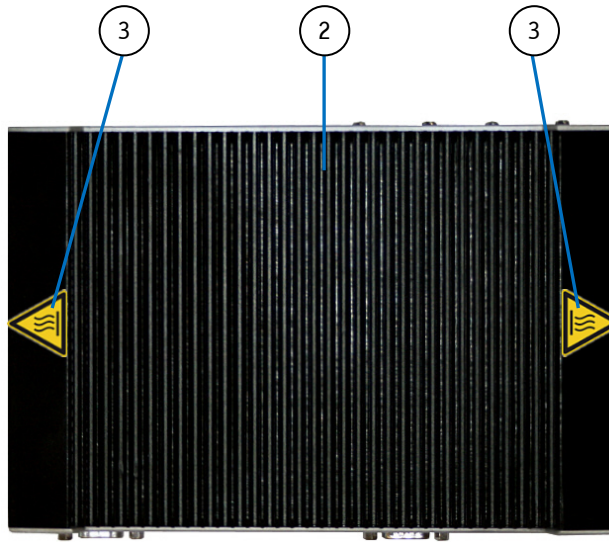

Fig. 17: Obere Seite des Chassis
Please observe the warning label “Hot Surface” (see Fig. 7 and Fig. 17, pos. 3) in the area of the cooling fins of the chassis. The KBox A-101 chassis may be hot during operation and should not be touched without taking care. There is a risk of burns.